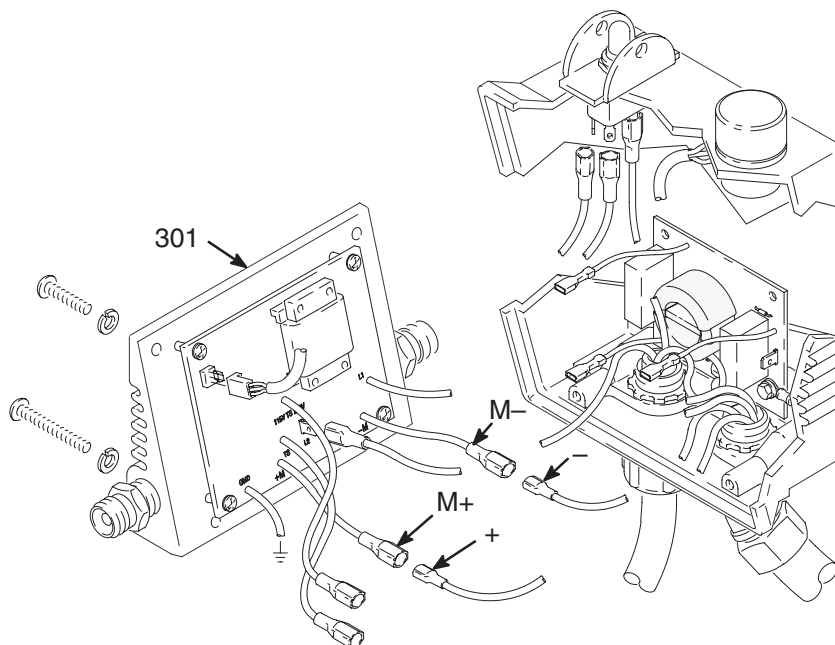

Fig. 10
Remove the pressure control/cover (301). Disconnect the – and + leads from the motor to the pressure control/cover terminals M–, and M+. See Fig. 10.